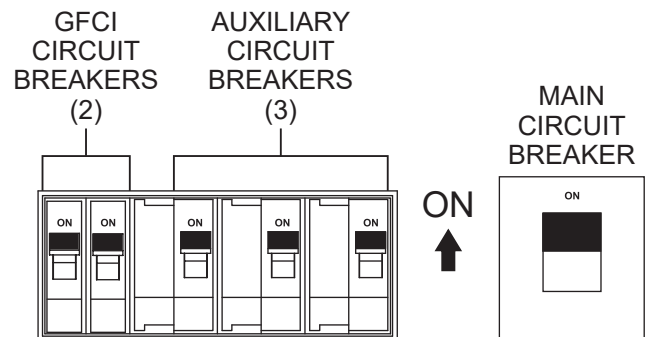

Figure 52. Main, Auxiliary, And GFCI Circuit Breakers (ON)
- Place the **main, auxiliary, and GFCI circuit breakers** in the **ON** position (Figure 52).